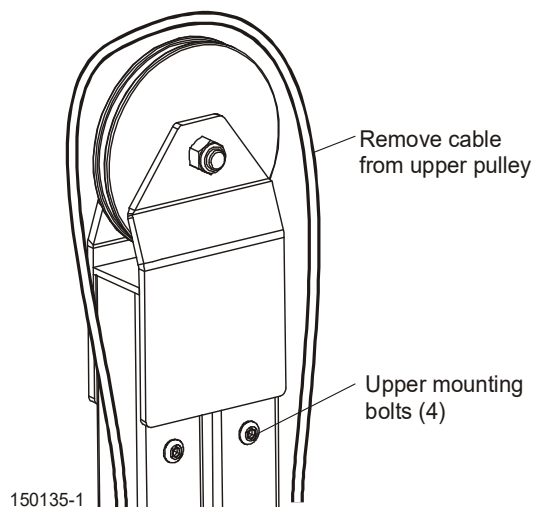

FIG. 7-6
3. Loosen (but do not remove) the tension adjustment bolt. Remove the cable from the top pulley and remove the four mounting bolts at the top of the assist assembly. See FIG. 7-6.